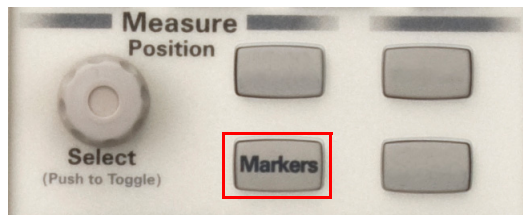

Figure 2-108 Markers button in the Measure section
- 2 You can also press **Markers** in the Measure section on the front panel as shown in Figure 2-108 or select **Tools > Marker** on the toolbar.